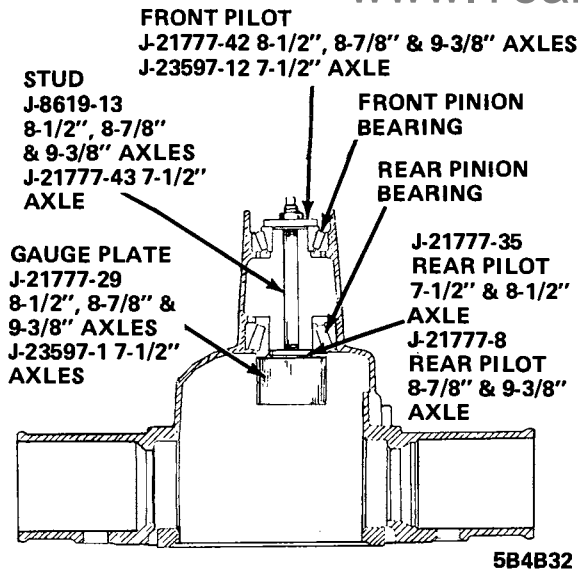

Figure 4B-32 Pinion Gauge Plate Installed in Carrier
6. Install discs on gauge shaft assembly, as shown in Figure 4B-33.